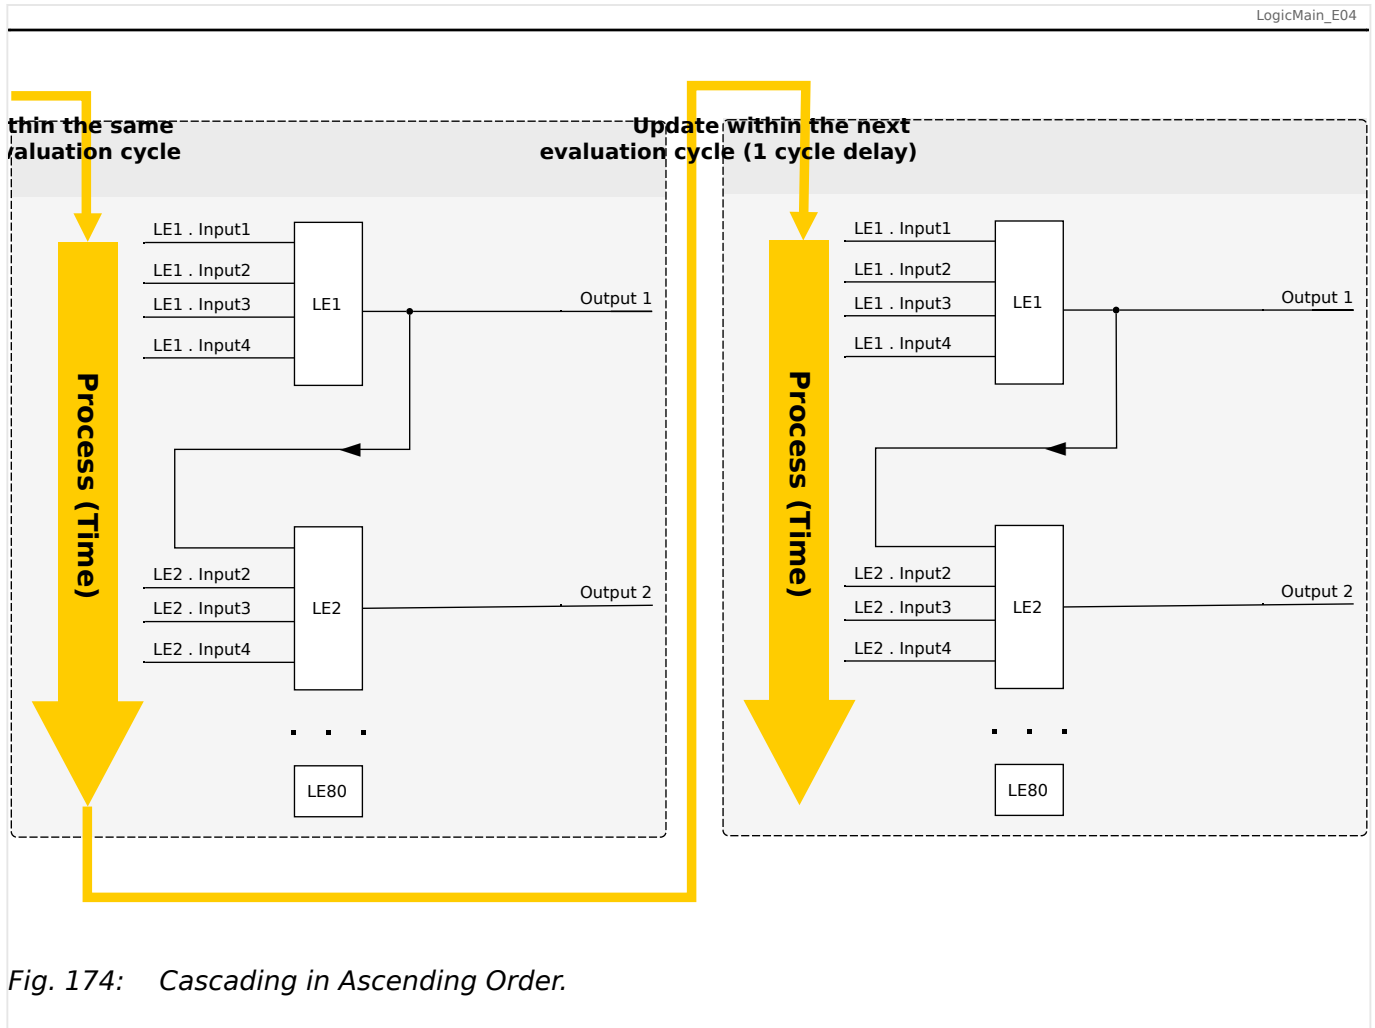
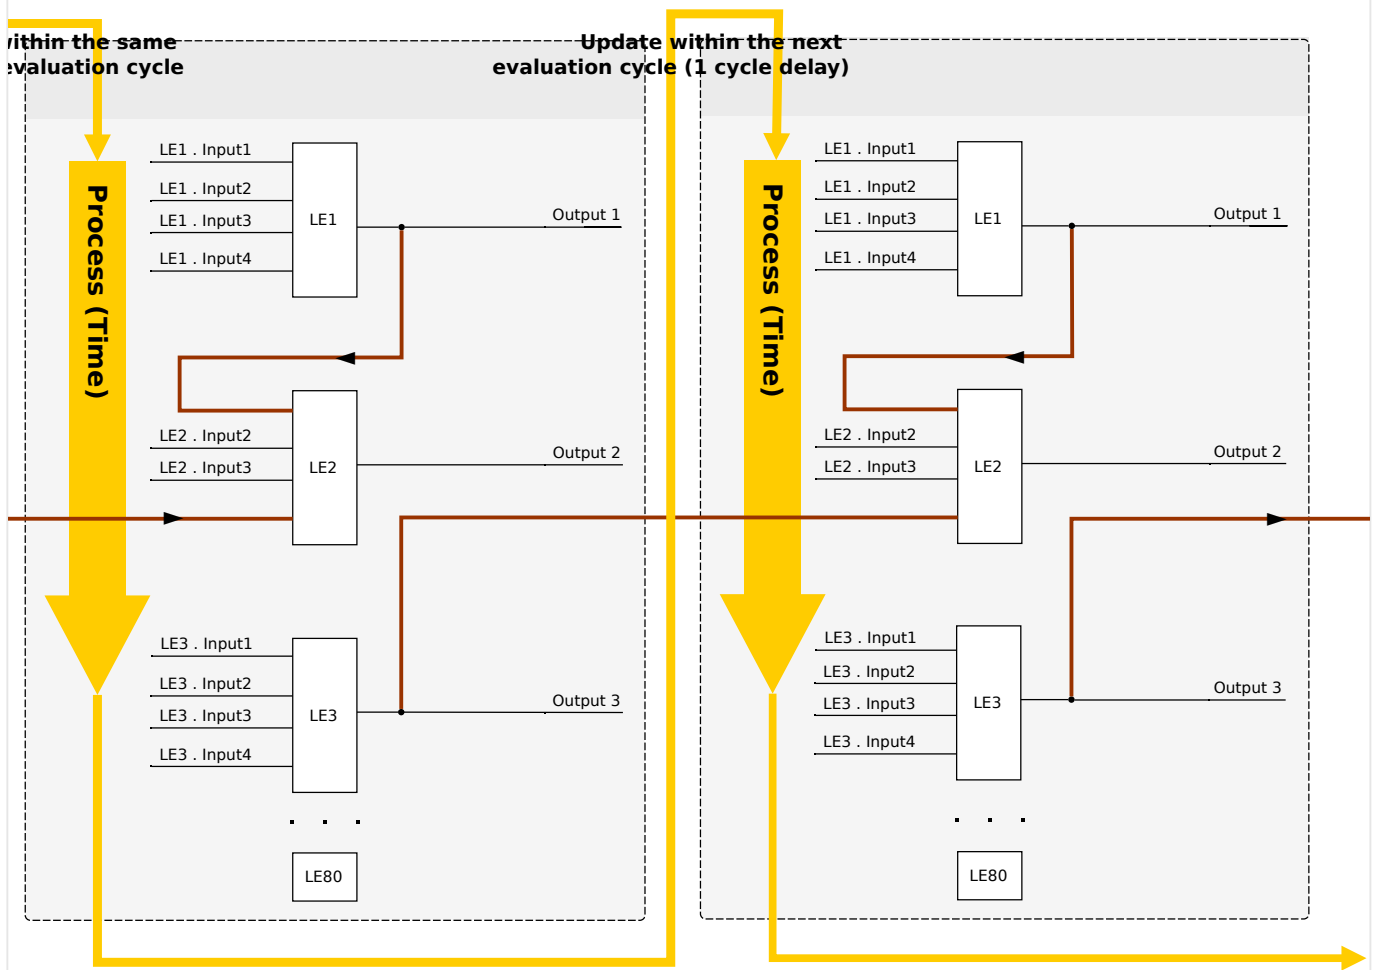

Fig. 174: Cascading in Ascending Order.
Fig. 175: Cascading in Descending Order.
- **Ascending** sequence means that some output is fed into the input of a logic equation with **higher** number. For instance, diagram ↪Fig. 174 below shows an example where the result of Logic Equation LE1 is used as an input of Logic Equation LE2.
- **Descending** sequence means that some output is fed into the input of a logic equation with **lower** number. For instance, diagram ↪Fig. 175 shows an example where the result of Logic Equation LE3 is used as an input of Logic Equation LE2.
Both ascending and descending sequences may be used and combined one with the other, with no immediate difference. However, due to the evaluation of all equations in ascending order the actual run-time values that are fed in at the input of an equation will have a different “age”, as is shown in ↪Fig. 174 and ↪Fig. 175 below.
In the example shown in Fig. 175 above, “Logic Equation 2” uses the output states of two other equations, “Logic Equation 1” and “Logic Equation 3”. The result of “Logic Equation 1” is used in ascending order and has therefore been evaluated within the same process cycle. The result of “Logic Equation 3” is used in descending order and has therefore been evaluated in the previous process cycle.